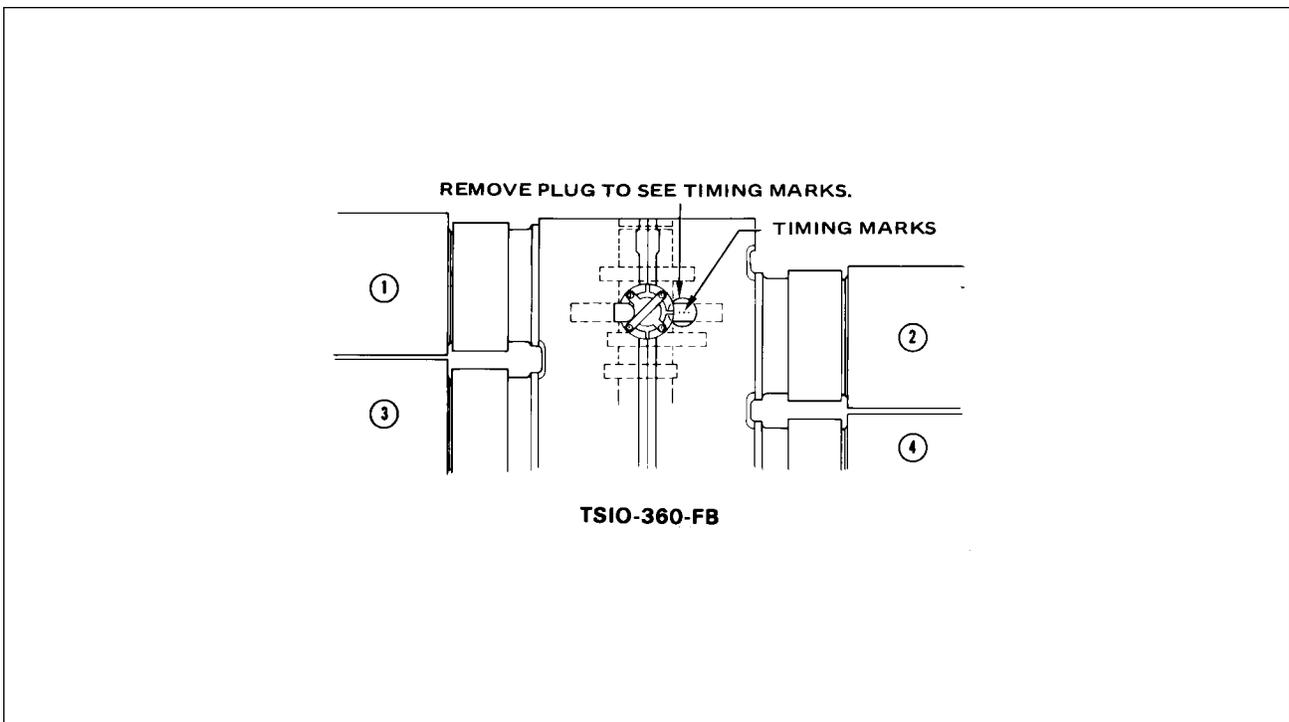

Figure 74-10. Engine Timing Marks
**MAGNETO INSTALLATION AND TIMING PROCEDURE. (Magneto To Engine)** (Refer to Figure 74-10.)